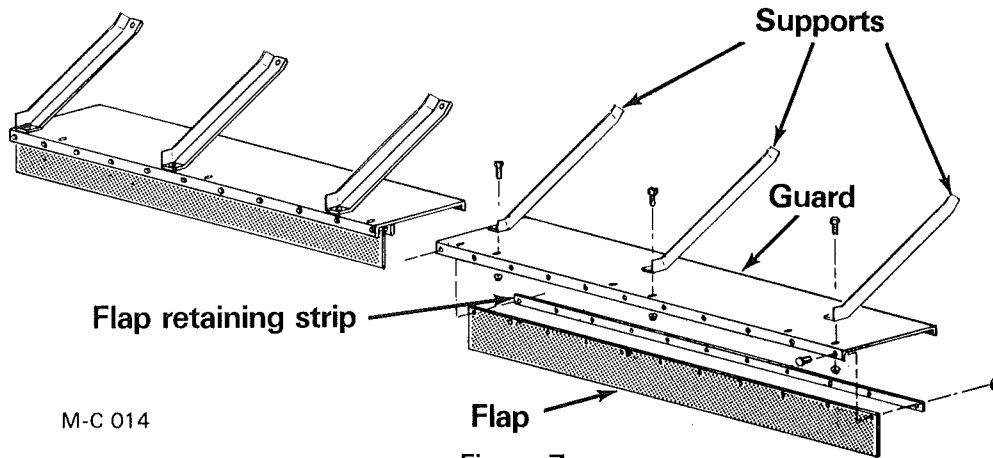

Figure 7
1. Assemble the stone guard flaps and retaining strips to the stone guards as shown in Figure 7 and 8. Use  $\frac{3}{8}$ "-16 X 1" hex-head capscrews and locknuts.